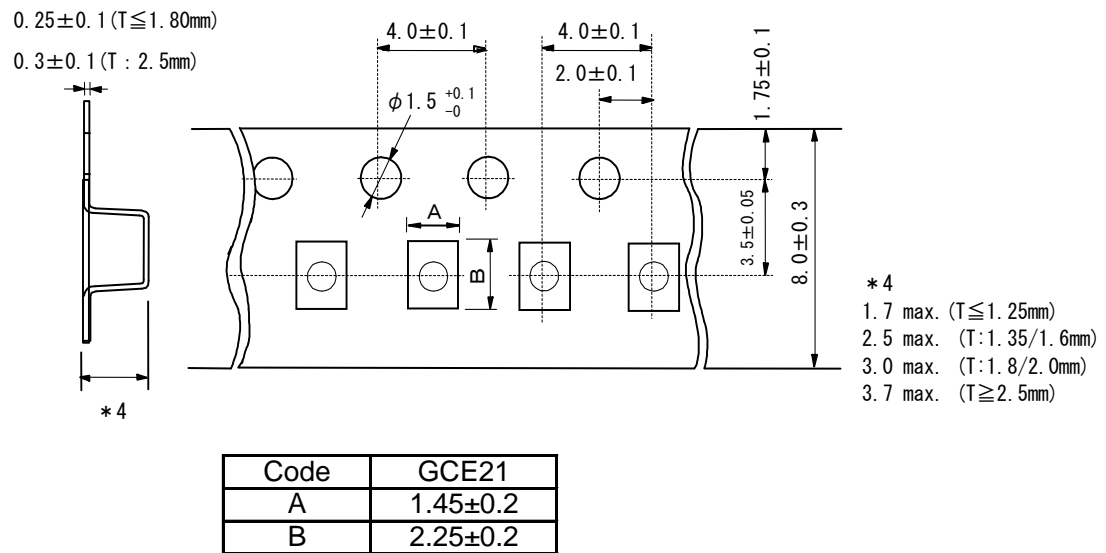

Fig.1 Package Chips
2.6 Chip in the tape is enclosed by top tape and bottom tape as shown in Fig.1.